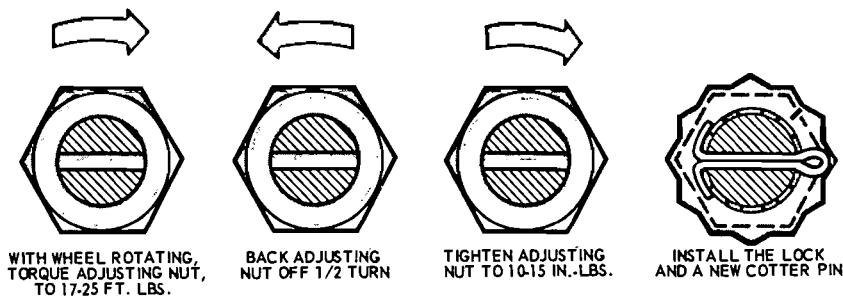

FIG. 1 Front Wheel Bearing Adjustment
4. While rotating the wheel, hub, and drum assembly, torque the adjusting nut to 17-25 ft-lbs to seat the bearings (Fig. 1).
5. While rotating the wheel, hub, and rotor assembly, torque the adjusting nut to 17-25 ft-lbs to seat the bearings (Fig. 1).
2. Remove the wheel cover or hub cap. Remove the grease cap from the hub. Remove the cotter pin, nut lock, adjusting nut, and flat washer from the spindle. Remove the outer bearing cone and roller assembly (Fig. 1, and 2 Part 11-02, Section 1).